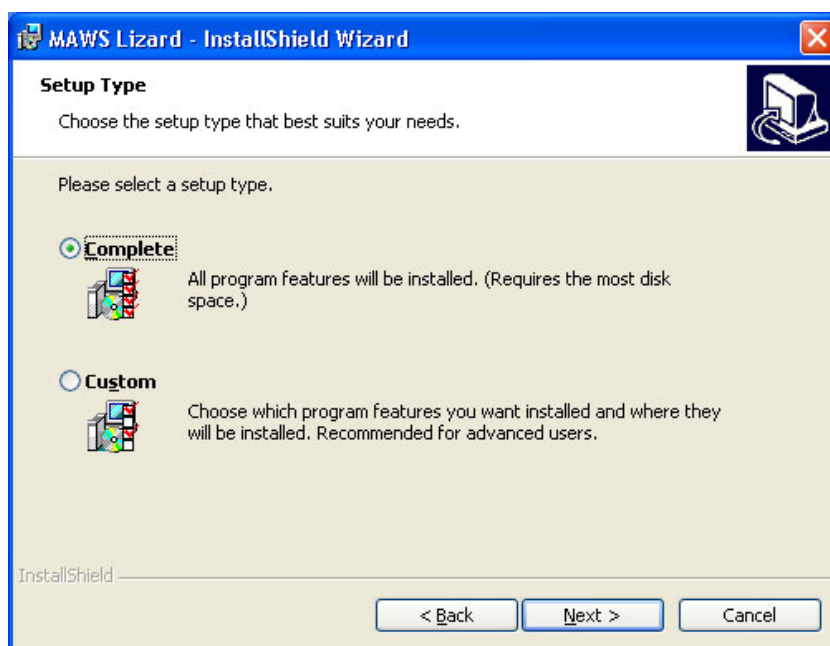

Figure 4 **Setup Type Window**
5. Select the setup type; see Figure 4 on page 28. You can either select **Complete** or **Custom**. If you want to change the folder where the program is to be installed, select the custom setup.